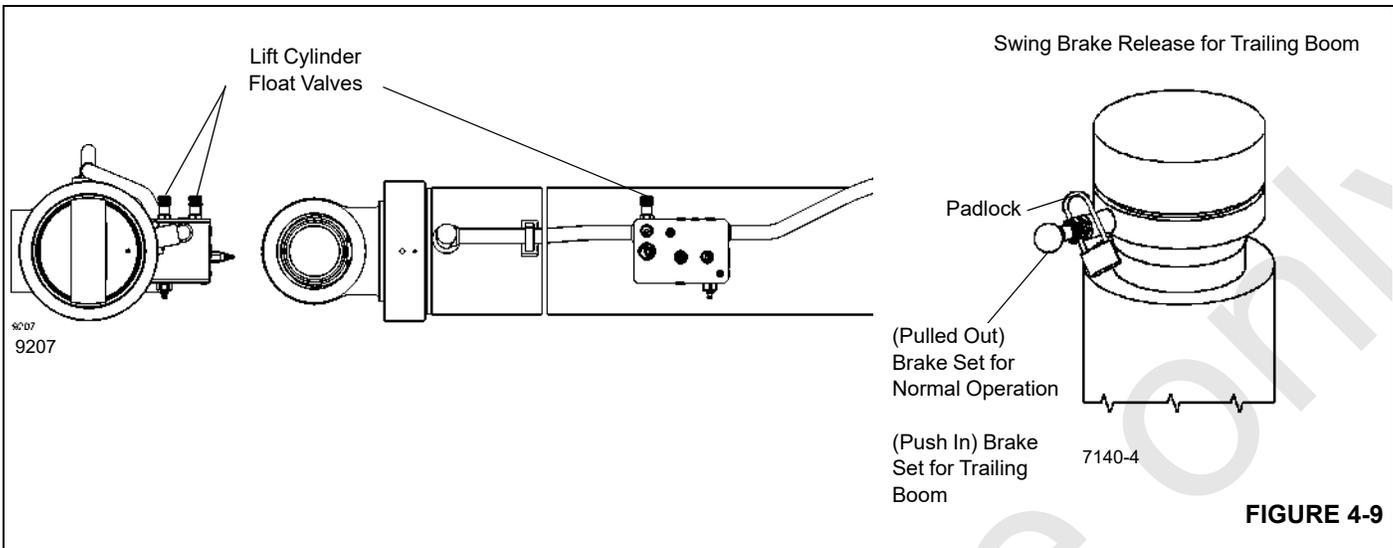

FIGURE 4-9
11. Turn the lift cylinder float valves counterclockwise to open them for trailing boom operation as shown in (Figure 4-9).